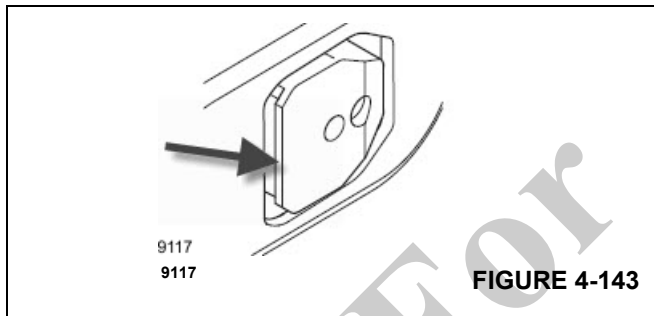

FIGURE 4-143
phases to the automated motion to lock the boom section. In particular, (Figure 4-143) shows that there is a “lip” on the boom section pins (pointed to by the arrow in figure). The first phase for boom section locking is to release/extend the pins into the hole/cutout in the encompassing boom section. If this is successful, then there is a second phase of automated motion to set down the boom section on the proper flat surface of the pins that is next to the lip. In a final phase, the pin is confirmed to be engaged and the boom section locked by the control system command the telescoping cylinder to retract and then checking for no boom motion. If there is no motion, then it is confirmed as locked.
- The operator can use the joystick in the retract direction for at least 1 second, and then the automated motion to unlock the boom section (T1 in the example) will start. It is important to know that there are two phases for unlocking a boom section. As mentioned previously, and shown in Figure 4-143, there is a lip on the boom section pins. Therefore, the first phase of the automated motion is to lift up the boom section to have clearance from this lip. After the lift up is completed, then the pins are retracted. The boom section is now able to be retracted.